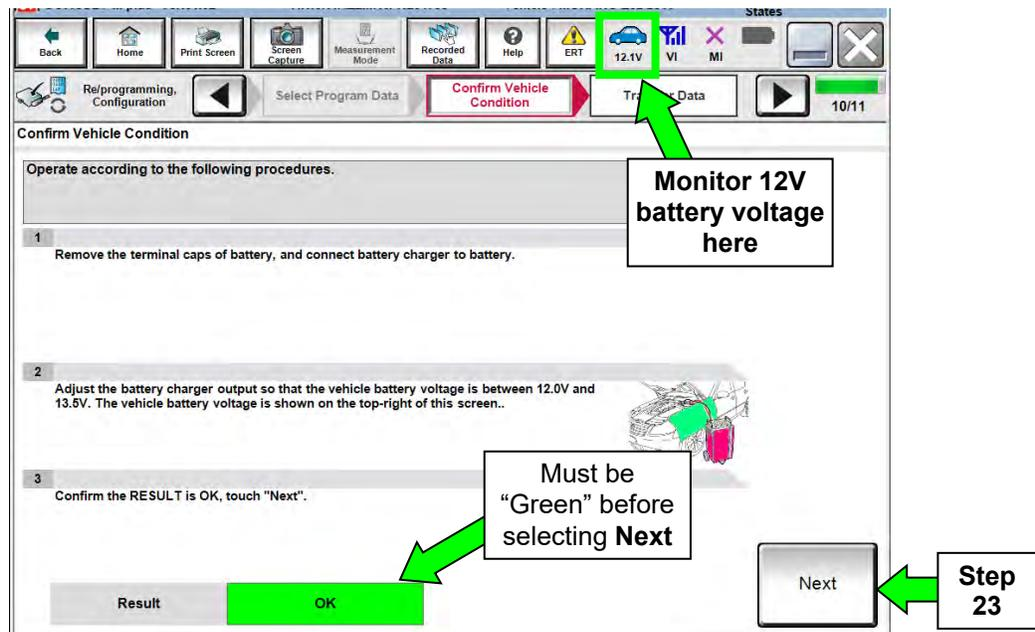

Figure 13
- If no **Saved Data List** is stored, Figure 13 on the next page will be displayed. Proceed to step 23.